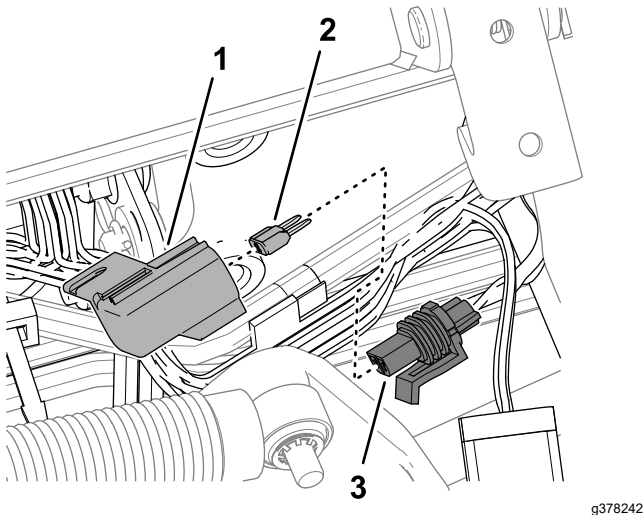

Figure 131
3. Remove the cap from the in-line fuse holder labeled 10 A FUSE TELEMATIC PWR (Figure 131).